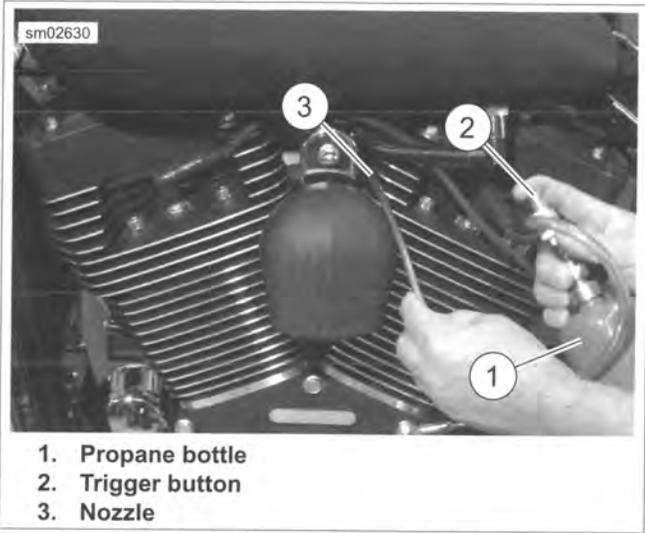

Figure 4-5. Checking for Leaks
2. See Figure 4-5. Aim nozzle (3) toward possible sources of leak such as intake manifold mating surfaces.
3. Press and release trigger button (2) to dispense propane. The tone of the engine changes when propane enters source of leak. Repeat as necessary to detect leak.